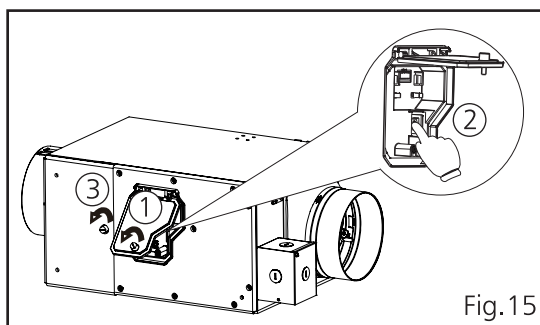

Fig.15
9. Unfasten the hand screw, open the maintenance board, and pull out the primary filter. Fill in the start date on the filter, the reinstall. (Refer Fig.15~17 on P.10~11)
7. Unfasten the hand screw, open the maintenance board, and pull out the primary filter. Fill in the start date on the filter, and reinstall. (Refer Fig.15~17 on P.10~11)
1. ① Open the control box cover by turning the hand screw counterclockwise. (Fig.15)
- ② Turn off main switch. (Fig.15)
- ③ Open the maintenance board by turning the hand screw counterclockwise. (Fig.15)